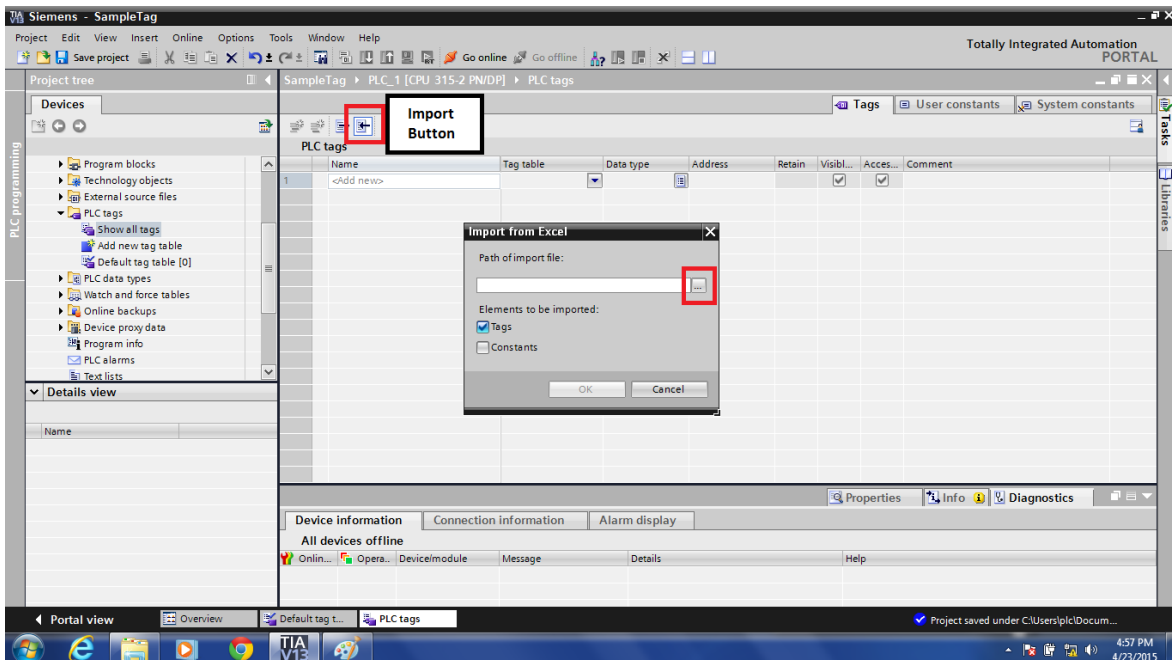
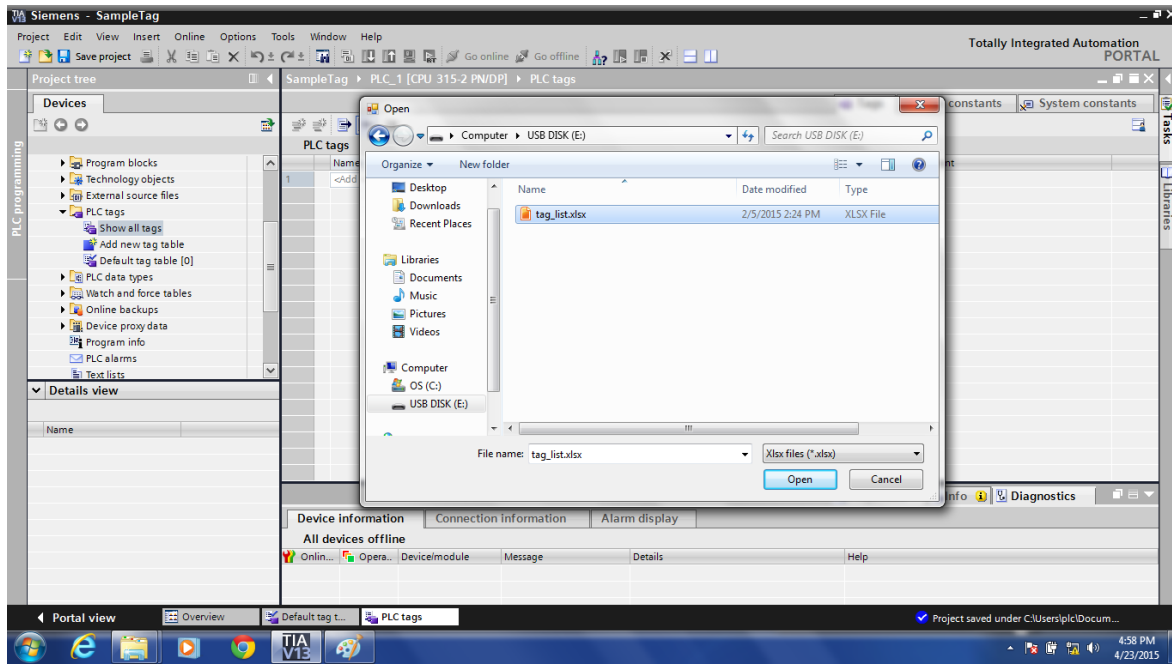

Figure 28 Import From Excel Dialog
Figure 29 File Selection Browse Dialog
5. Click the Import icon on the main window tool bar to open the Import from Excel dialog. Refer to Figure 28. Click the “...” icon in the “Import from Excel” dialog to browse to the *.XLSX tag file. Refer to Figure 29.
6. Select the *.XLSX tag file for import and click the Open button in the Open dialog to import the file. Refer to Figure 29